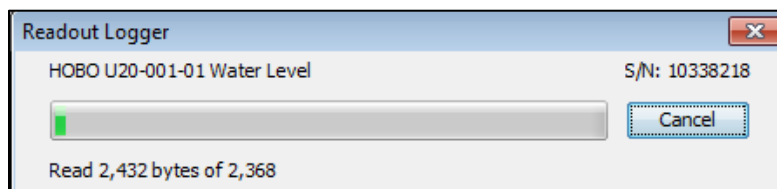

Figure B 10. Readout Logger status window.
7. The Readout Logger status window will appear (Figure B 10).